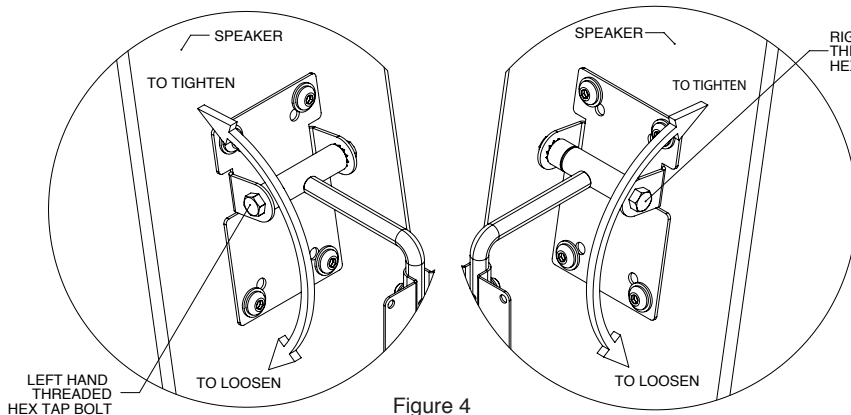

Figure 4
bolts of the speaker adapter plate. Be sure that the bolts have been tightened permanently before releasing the weight of the speaker. If the tilt angle must be further adjusted, do not pull on the speaker, rather, firmly hold the speaker in place, loosen the hex tap bolts, reposition the speaker, then retighten the bolts permanently into the new position (Figure 4).
Step 4: Tilt the speaker to the desired tilt angle then tighten the hex tap bolts of the speaker adapter plate. Be sure that the bolts have been tightened permanently before releasing the weight of the speaker. If the tilt angle must be further adjusted, do not pull on the speaker, rather, firmly hold the speaker in place, loosen the hex tap bolts, reposition the speaker, then retighten the bolts permanently into the new position (Figure 4)